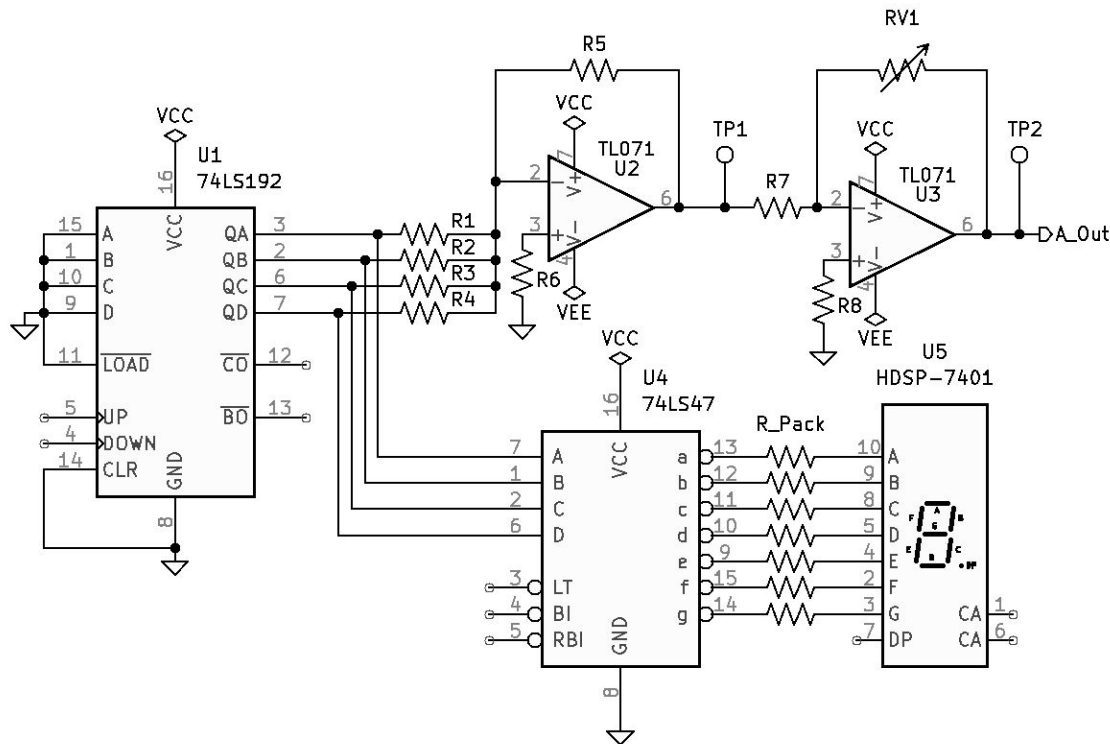

Figure 8.1: DAC Engineering Department Prototype Circuit.
1. The Engineering Department has sent you a DAC prototype circuit that they are working on. The DAC circuit is not working as expected. The Engineering Department needs you to analyze the circuit and make sure all the connections are correct. See Figure 8.1 *DAC Engineering Department Prototype Circuit* on page 75.